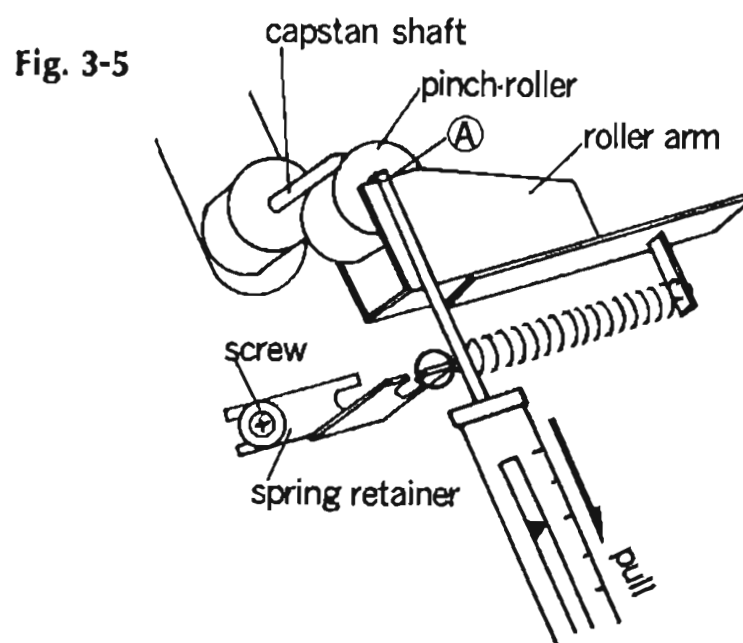

Fig. 3-5
3-8. Pinch-roller Pressure Adjustment (See Fig. 3-5)
- 1) Hook the spring scale at point A of the roller arm as shown in Fig. 3-5.